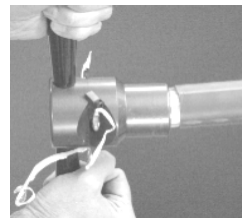

Figure 3
- 3) **Insert cable end into prep tool and turn tool clockwise** to cut into and remove material (Figure 3). Please remove the jacket strip blade for riser rated cables. When tool no longer cuts away material and spins freely, **remove** tool while continuing to turn. (This process will remove 0.5" jacket back for standard jacket cable – black jacket. If necessary, **remove** jacket remnants with razor knife). (Tools required: All-In-One Cable Prep Tool and Razor Knife)